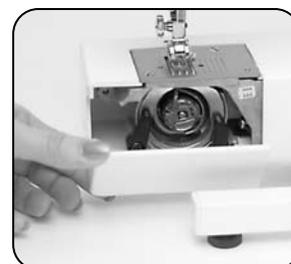

Fig. 6
3. Remove the free arm cover and open the front bobbin cover [Fig. 6].